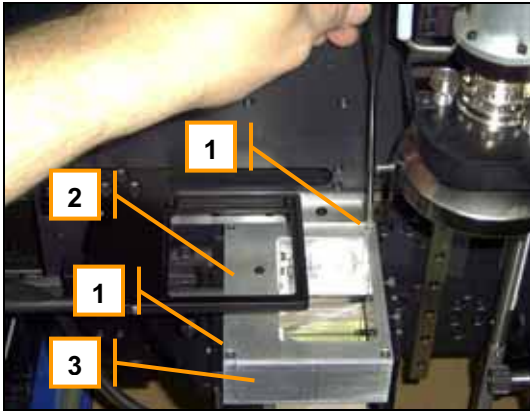

Figure 31: Removing the lighting cover
1. To change the component or board lighting halogen bulbs found on the standard optics train, follow the steps outlined in Figures 31 and 32, below.